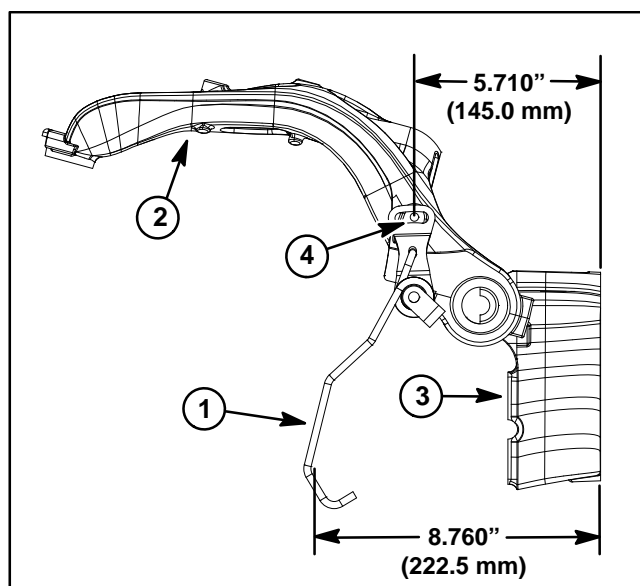

Figure 24
E. If stabilizer springs were removed from suspension assembly, move and support suspension assembly so that upper a-arm has stabilizer spring attachment hole positioned 5.710" (145.0 mm) from rear of pivot mount. Then, adjust location of spring so the center of the spring end is 8.760" (222.5 mm) from rear of pivot mount. Figure 24 shows dimensions for correct stabilizer spring adjustment.